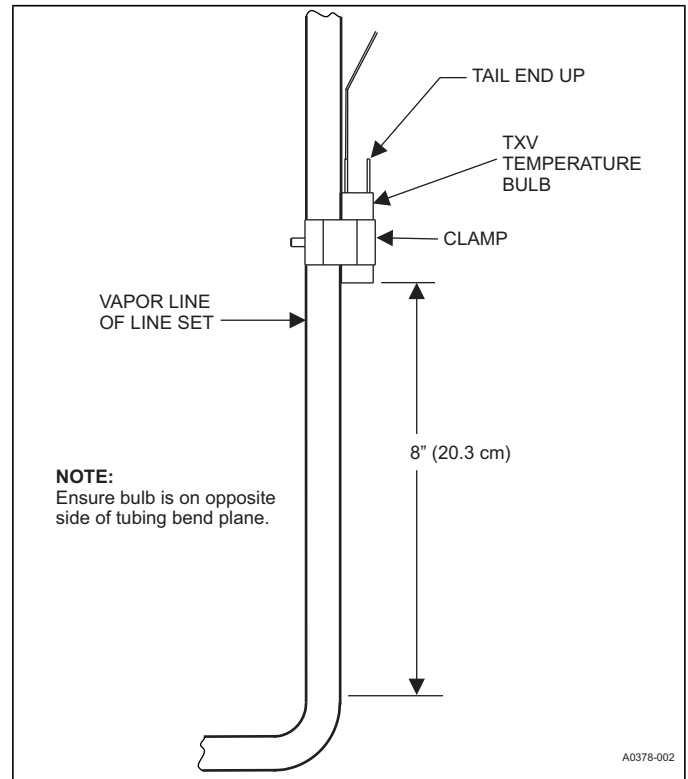

FIGURE 19: Vertical Temperature Bulb Orientation
- b. If bulb installation is made on a vertical run, ensure that the bulb is a minimum of 8 inches (20.3 cm) away from elbow coming out of the coil. Position the bulb with the tail of the bulb at the top, so that the bulb acts as a reservoir. See Figure 19.